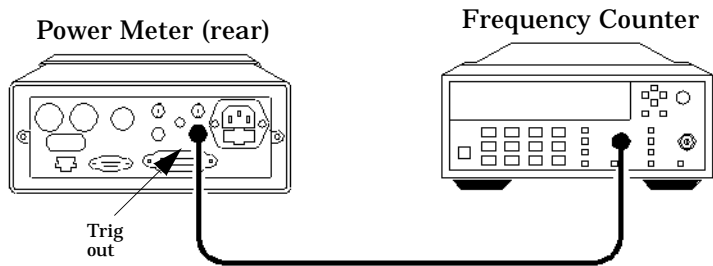

Figure 2-8: Time Base Accuracy Test Setup
- 1. Connect the equipment as shown in Figure 2-8.